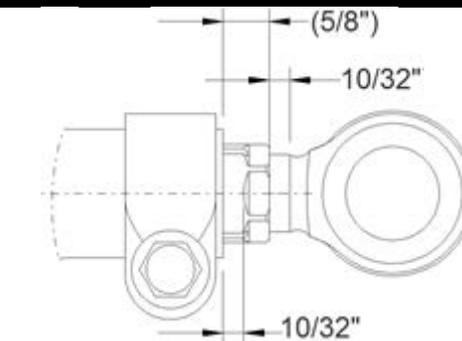

FIGURE 11
13. Adjust sleeve to the values of FIGURE 11.